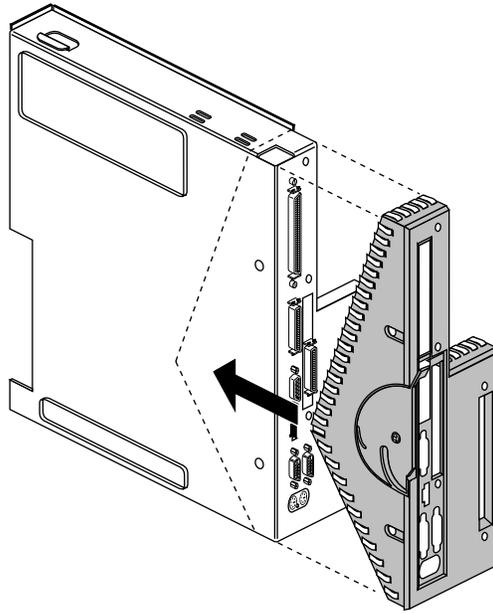

Figure 1-22 Replacing the Face Plate
2. Replace the plastic and metal face plate by sliding it onto the system module, while at the same time lifting the plastic at the "V" to snap it in place. When properly seated, the underside of the faceplate is flush to the module and the screw holes are aligned (Figure 1-22).